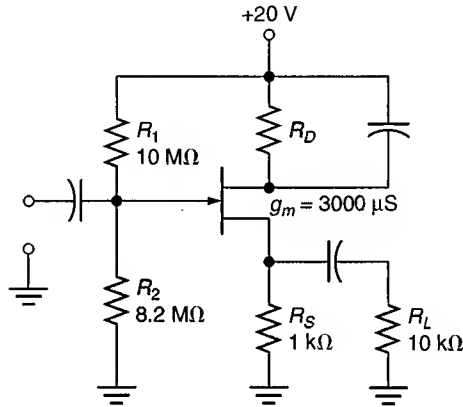

FIGURE 12.69
42. Determine the ranges of A_v , Z_{in} , and Z_{out} for the amplifier in Figure 12.69.